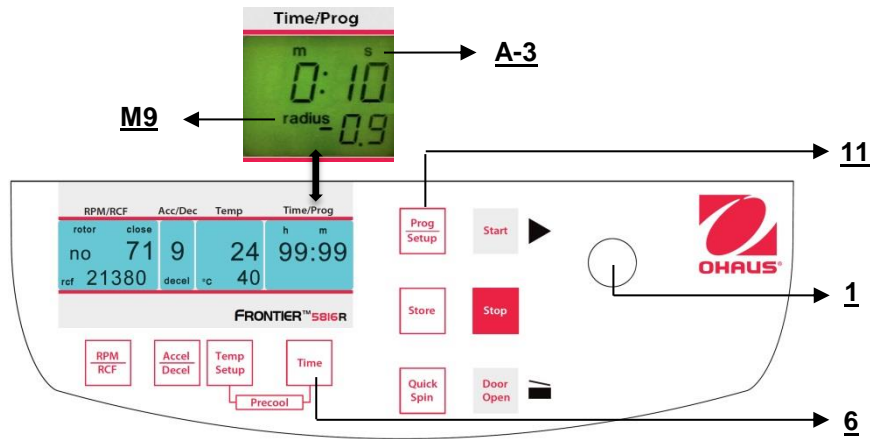

Figure. 21
Close the lid, then press the key "**Time**" (6) (refer to figure 21) and the key "**Prog/Setup**" (11) at the same time and hold them.